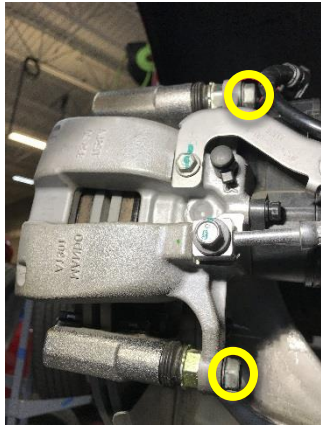
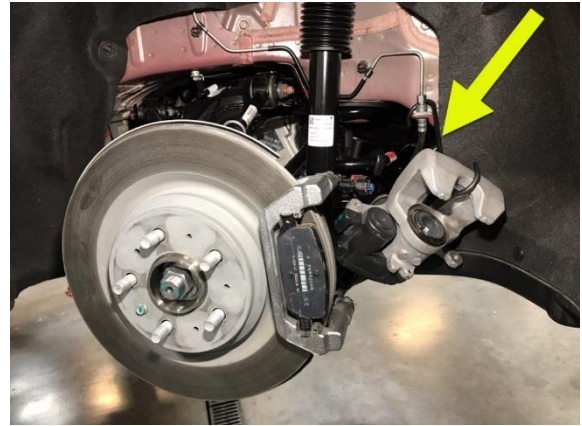

Figure 16 (Model 3 shown, other models similar)
Figure 17 (Model 3 shown, other models similar)
25. Remove the bolts (x2) that attach the rear LH caliper to the rear LH carrier (Figure 16), remove the caliper from the carrier, and then hang the caliper from an S-hook (Figure 17).